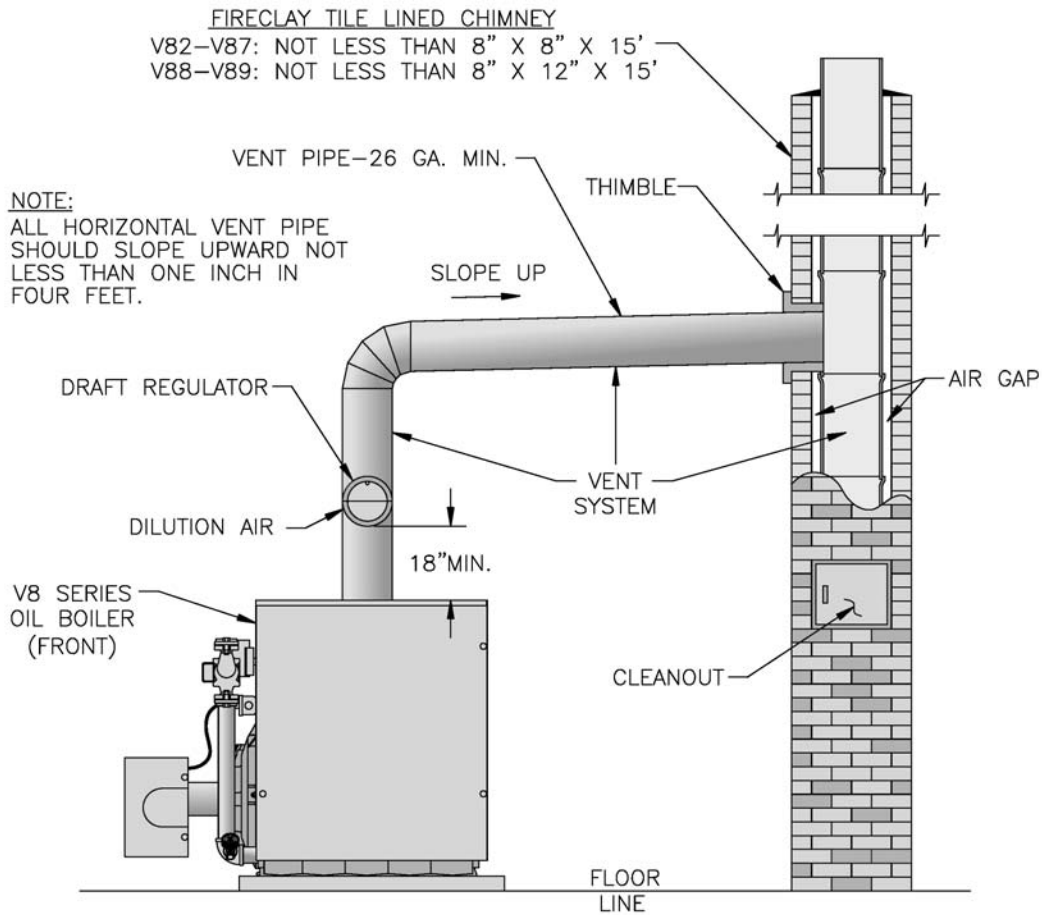

Figure 16: Recommended Vent Pipe Arrangement and Chimney Requirements
2. The V8 is designed to be vented into a fireclay tile-lined masonry chimney or chimney constructed from type L vent or a factory built chimney that complies with the type HT requirements of UL103. The chimney and vent pipe shall have a sufficient draft at all times, to assure safe proper operation of the boiler. See Figure 16 for recommended installation.